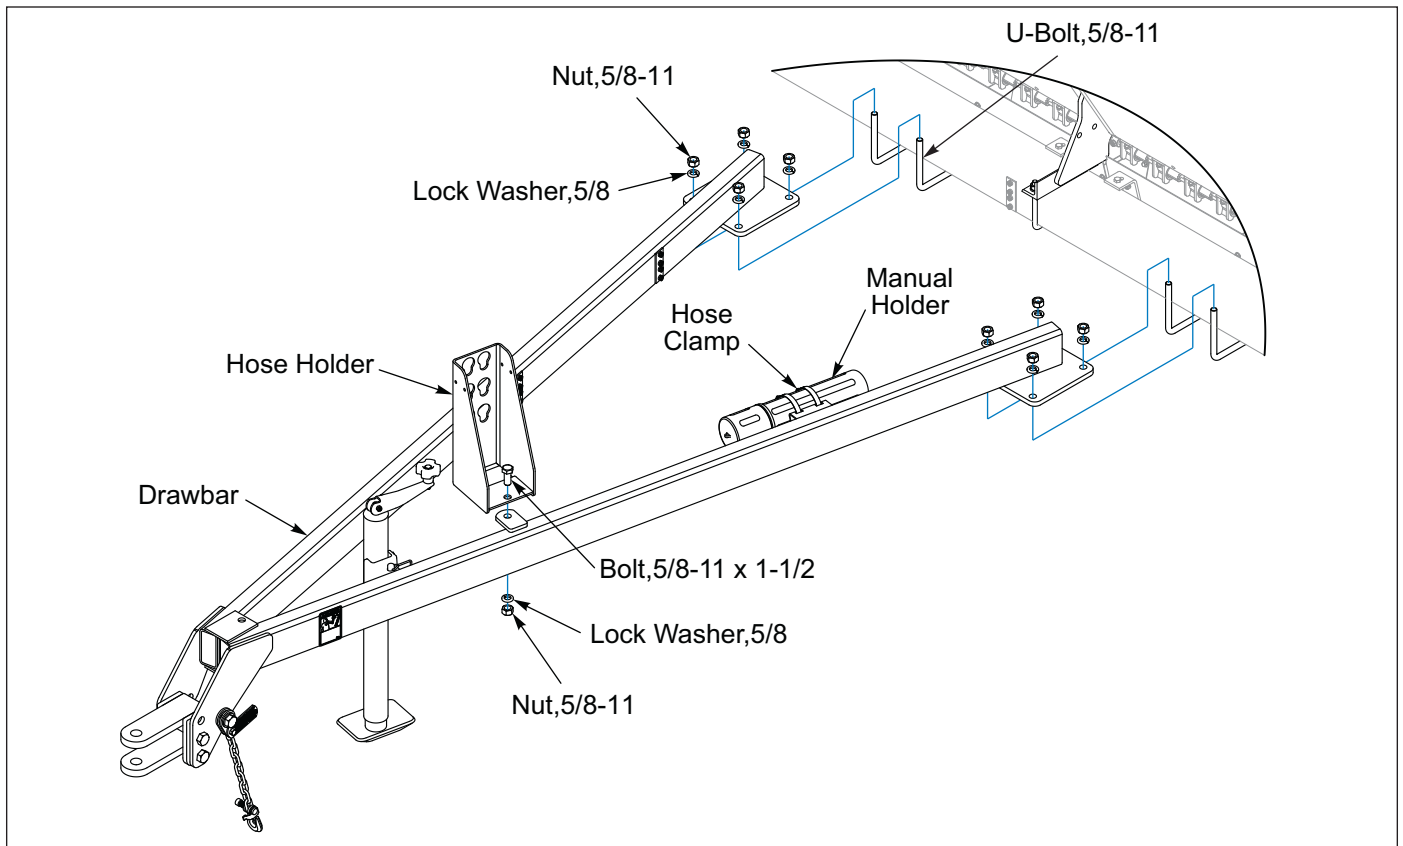

Figure 2-10: Drawbar Installation (Before 06/2026)
2. Center Drawbar in relationship with the Seed Box Center Bracket. Attach Drawbar to Seeder Frame Tube with 5/8-11 U-Bolts, Lock Washers, and Nuts. **See Figure 2-10.**